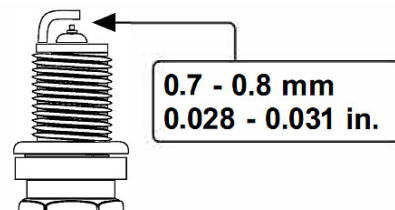

Fig. 37: Check electrode distance
Step 11: Replace the left maintenance cover (Fig.37). Tighten the screws.